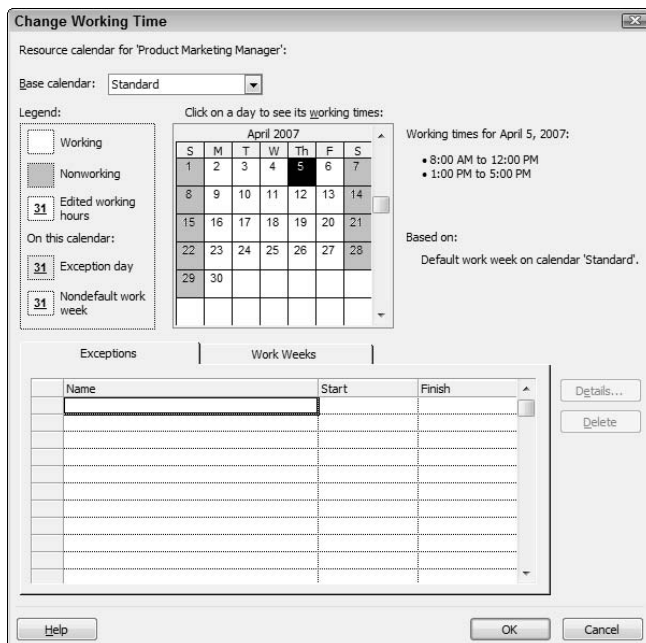

Figure 4-1: Different hours are shaded uniquely in the calendar display.
- *Night Shift:* Sets Sunday as a nonworking day, three shifts Tuesday through Friday, two shifts on Saturday, and one on Monday. Working times for a Night Shift calendar are shown in Figure 4-1.
The legend in Figure 4-1 explains how different hours are shaded to help you identify them in the calendar display.